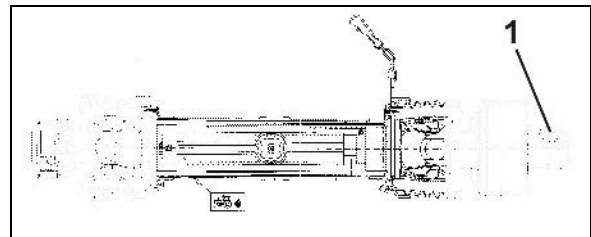

Fig. 24
2. Put the PTO shaft on the gearbox input shaft and secure using threaded pins (Fig. 24/1).